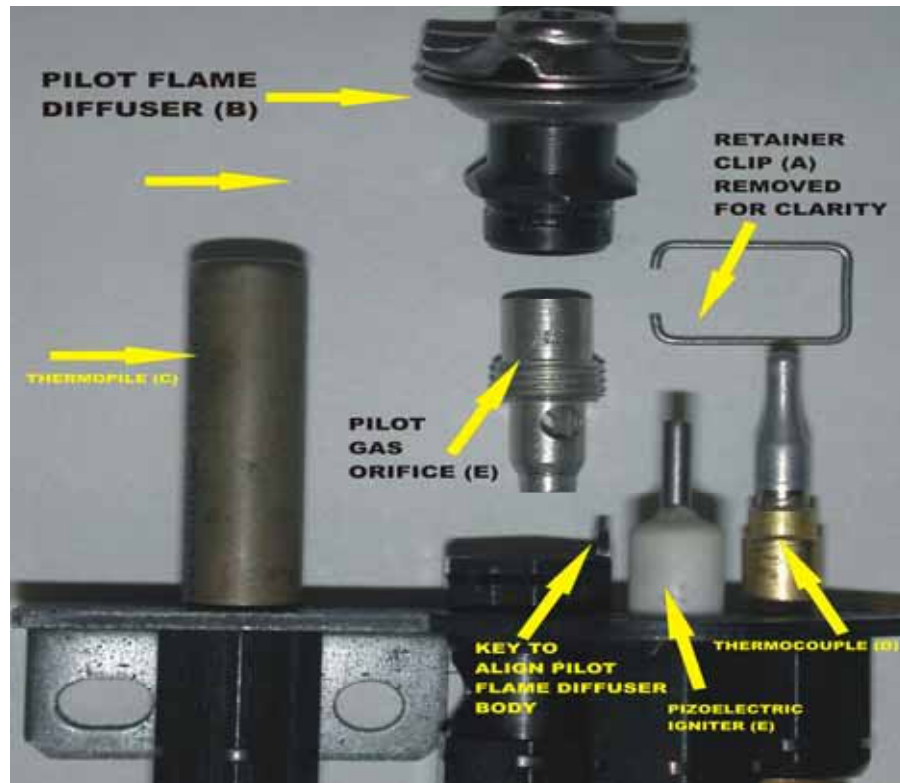

FIGURE 10: PILOT VALVE
- Remove the pilot gas orifice (FIGURE 10, Item F) by using a 5/32 hex head wrench (Allen wrench) placed in the top of the pilot gas orifice.